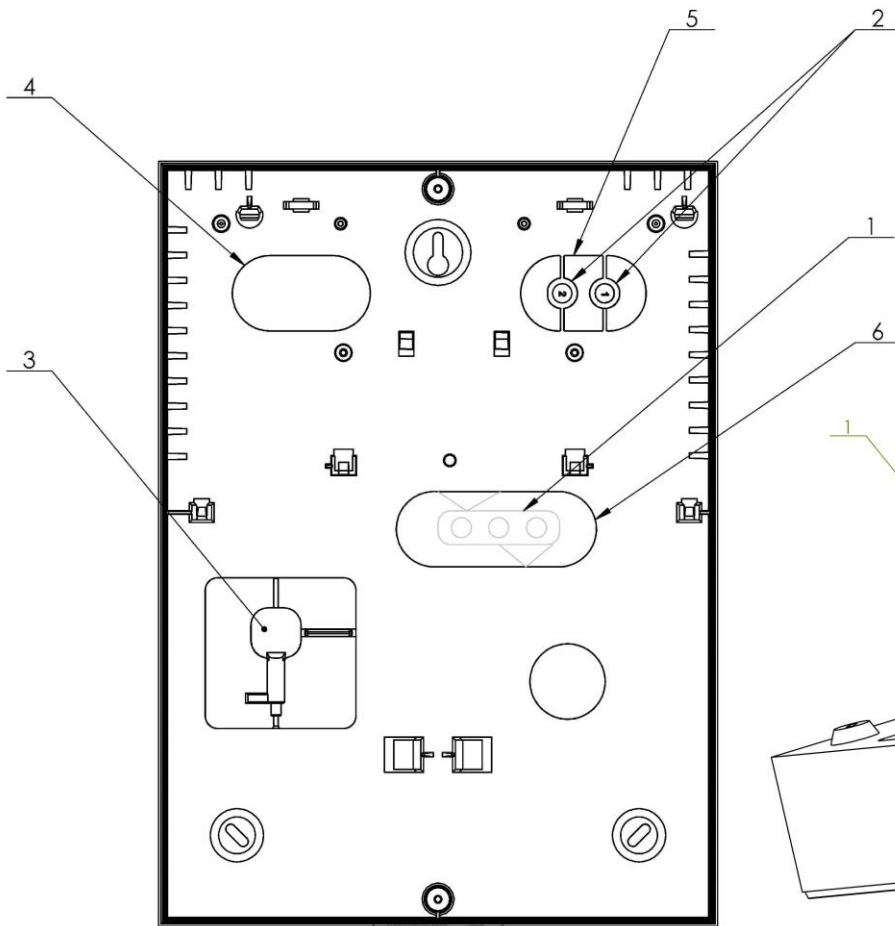

Fig.5
- Cut the access level key out from the bottom side of the cabinet (fig.5, pos.3);
- Cut the plastic plugs out from the bottom side of the cabinet (fig.5, pos.2);
- Take care to fully clean the opening on fig.5, pos.5;
- Do not remove the plastic component (fig.5, pos.1);
- The openings (fig.5, pos.6) and (fig.5, pos.5) are dedicated to the signal lines (conventional zones and alarm and protection equipment);
- The opening in the top left corner is only dedicated to the 220Vac mains power line (fig.5, pos.4), applicable for the FS4000 mains power supply;